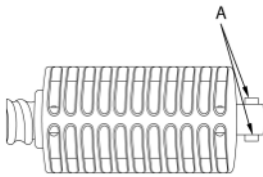
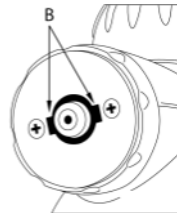

FIGURE 10
FIGURE 11
3. Insert cylinder on Male end (FIGURE 10) into hole on face of main unit (FIGURE 11). Insert it so that two tabs on sides of cylinder (FIGURE 10-A) fit into two tab holes on sides of main hole (FIGURE 11-B). Twist cylinder 90 degrees counter-clockwise, so small line on end of cylinder aligns with top of main unit.